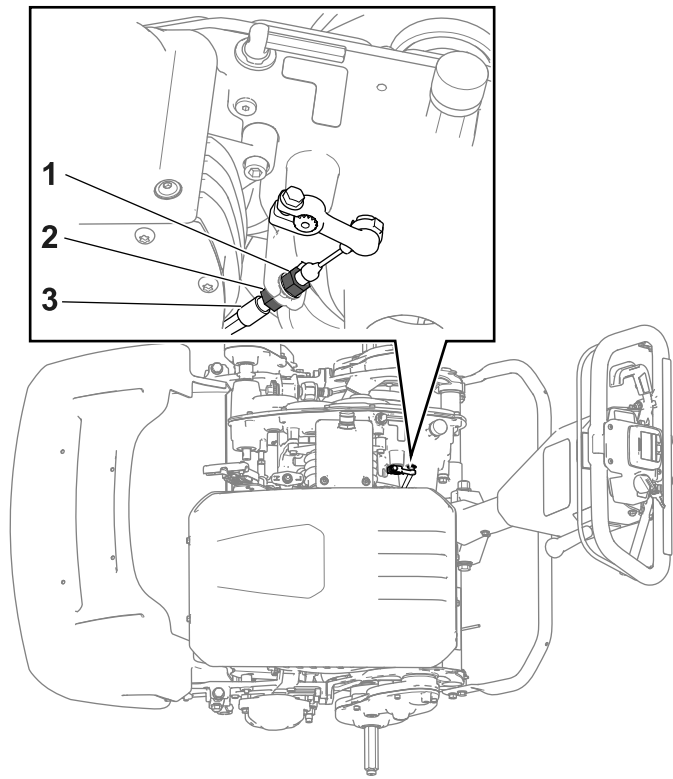

Figure 32
- To increase the cable tension, loosen the front-cable jam nut and tighten the rear jam nut (Figure 32). Repeat step 2 and adjust the tension if necessary.
nut (Figure 32). Repeat step 2 and adjust the tension if necessary.